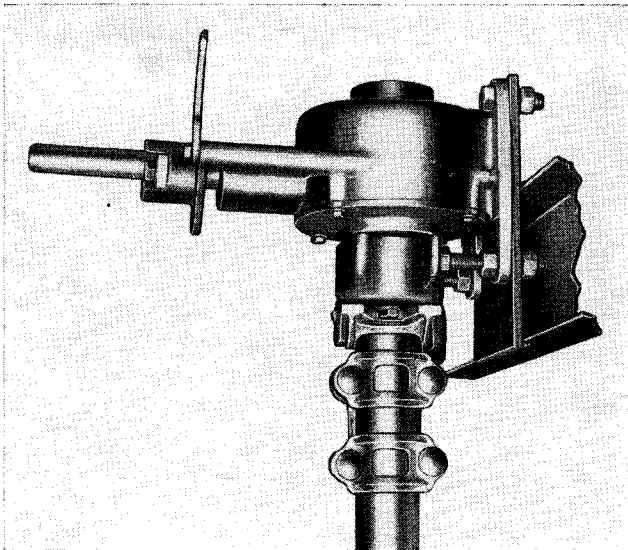
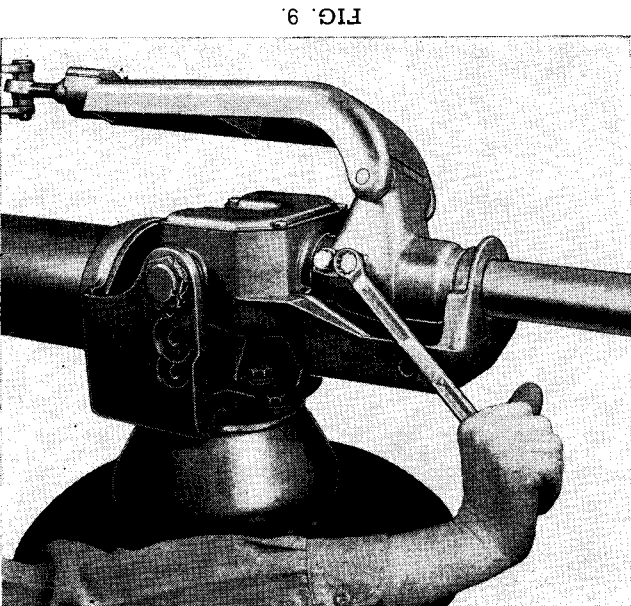

FIG. 12.
FIG. 9.
(7) The driven pole unit can now be operated with the handle at ground level. Set the stops on the handle for the open and closed positions. See Fig. 12 or Fig. 13 for details of "Stops" on the operating handles.
(8) Position all three pole units in the fully open position. With all pole units open, connect the interphase pipes. Tighten the clamping bolts on the rod ends but do not sink the set screws at this time.
(9) The complete switch should now be operated by means of the handle at ground level. The three blades should open to a vertical position against the stops. When the switch closes, the blades should enter the jaws and rotate to a final position within plus or minus 5 degrees from horizontal. If one or two blade tips do not turn over far enough to come within the  $\pm 5$  degree tolerance, the following adjustment can be made. Refer to Fig. 9. Loosen the two bolts at the pivot end of the blade. The blade can be rotated about its axis a few degrees in either direction. After making this adjustment, tighten these two bolts securely.